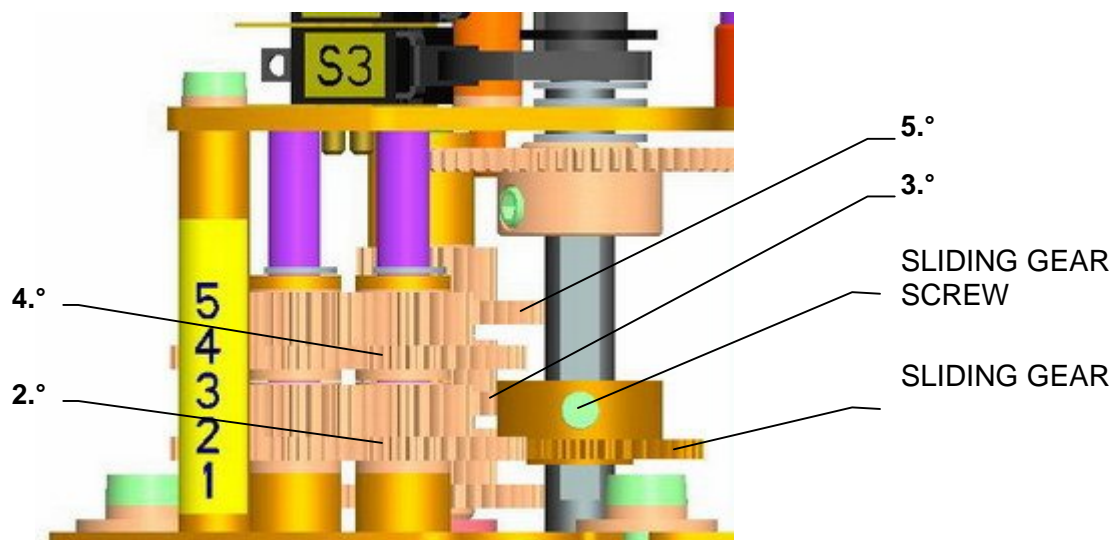

Fig.3b
- set the adjustment wheel to the required degree of the range according to **table 5** and **Fig.3b** by loosening of the adjustment wheel screw and re-tightening after alignment. When adjusting the adjustment wheel, make sure there is correct alignment with the second level disc.